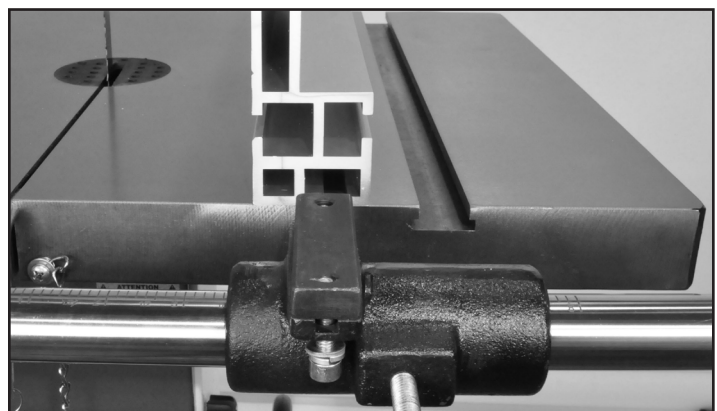
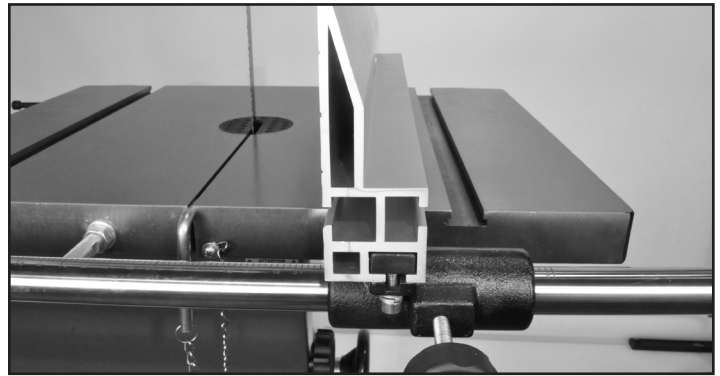

FIGURE 37
FIGURE 38
4. Turn the fence around 180° end-to-end and slide it back onto the sliding block. Fig. 37. Once in place, retighten the two hex screws to secure the fence in position on the carrier. Fig. 38.